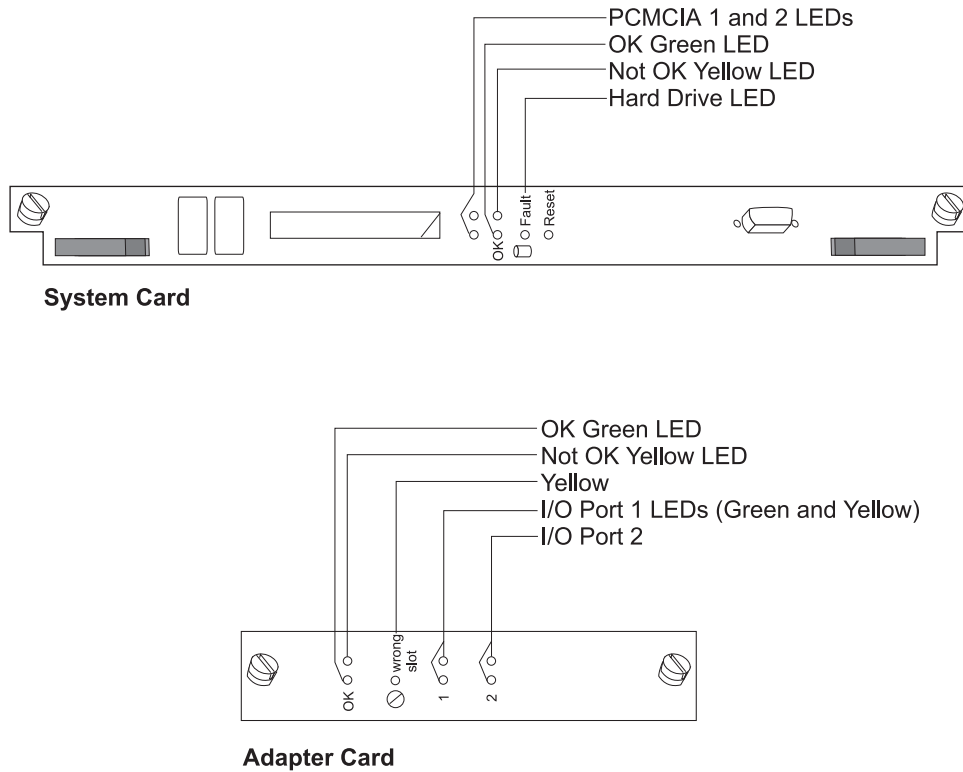

Figure 1-1. System Card and Adapter Card LEDs
2. Connect the power cord to the Network Utility and the power outlet (to power on the unit). After about 4 to 5 minutes, verify that the correct LEDs are on (see Table 1-1 on page 1-9). Monitor the LED states as shown in Figure 1-1 on page 1-10.
Table 1-1 shows the correct state of each LED on the front of the unit after it has completed booting (**about 4-5 minutes after a power-on**). If all LEDs are in the correct state, you can begin to configure the unit. See Figure 1-1 on page 1-10 for the locations of the LEDs on the Network Utility.